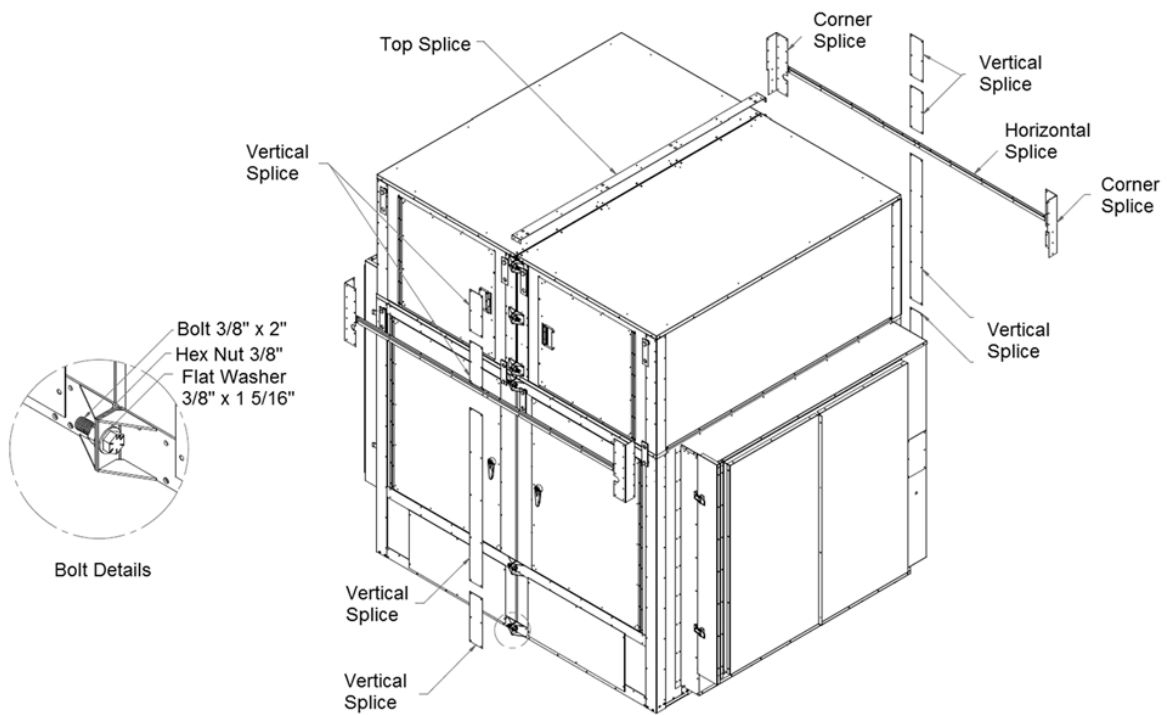
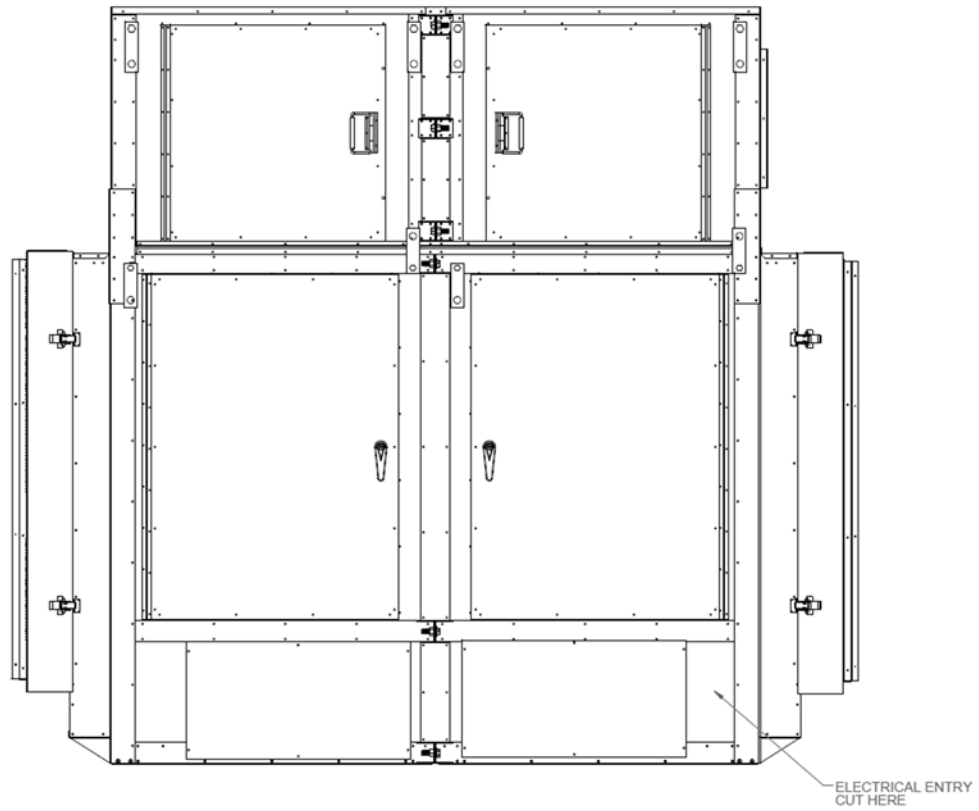

Figure 9: Dual Unit Assembly Details
Figure 10: Dual Unit with Splices After Being Bolted Together
3. For dual units (45-70 tons), move the second coil section close to the first coil section and align the bolt holes of the coil sections. Compressor and control service access doors of each section should be on the same side of the complete unit. A crowbar or similar tool can be used to line up the sections. Factory provided bolts can then be used to secure the coil sections together. See Figure 9.
5. For dual units, align the bolt holes of the fan sections if they are shipped separately. Fan service access doors of each section should be on the same side of the complete unit. A crowbar or similar tool can be used to line up the sections. Factory provided bolts can then be used to secure the fan sections together. See Figure 9.
6. For dual units, install horizontal, vertical, and top splices, overlapping the fan and coil sections. Fasten splices with self-tapping #10 hex head screws. See Figure 9 and Figure 10. Single units (23-35 tons) do not require these splices. Only corner slices are required for single units.
7. Install corner splices, overlapping the fan and coil sections. Fasten splices with self-tapping #10 hex head screws. See Figure 9 and Figure 10.